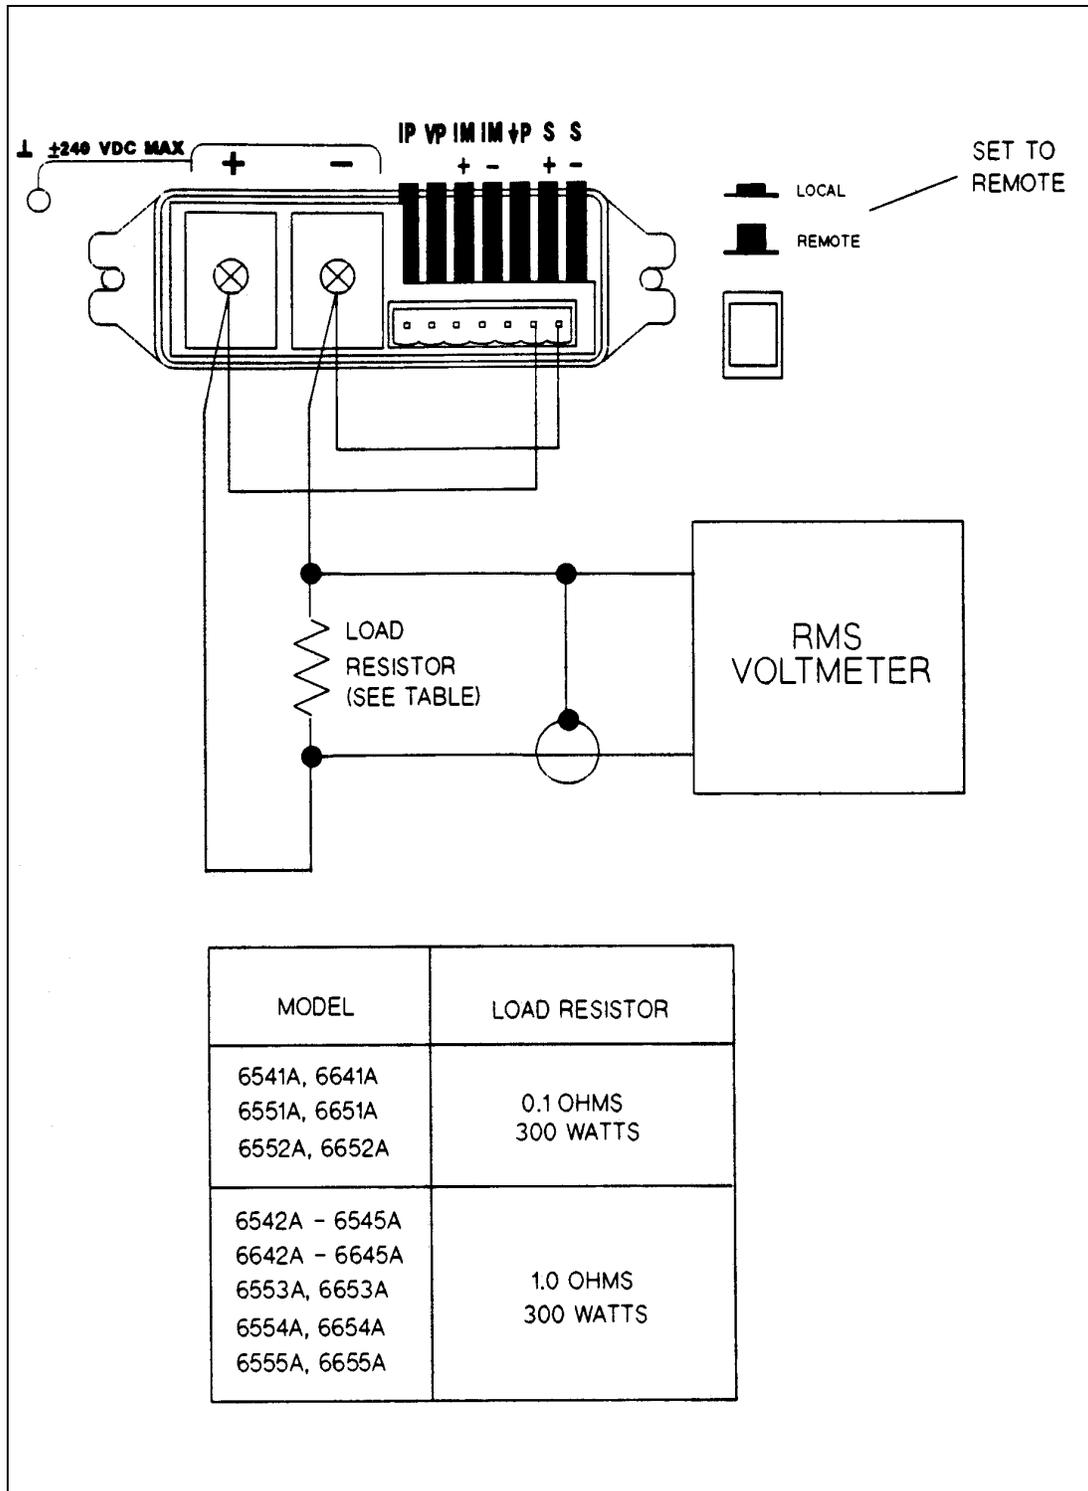

Figure 2-3. CC RMS Noise Measurement Test Setup
- a. Turn off the supply and connect the load resistor and rms voltmeter as shown in Figure 2-3. Leads should be as short as possible to reduce noise pick-up. Use only a resistive load for this test.